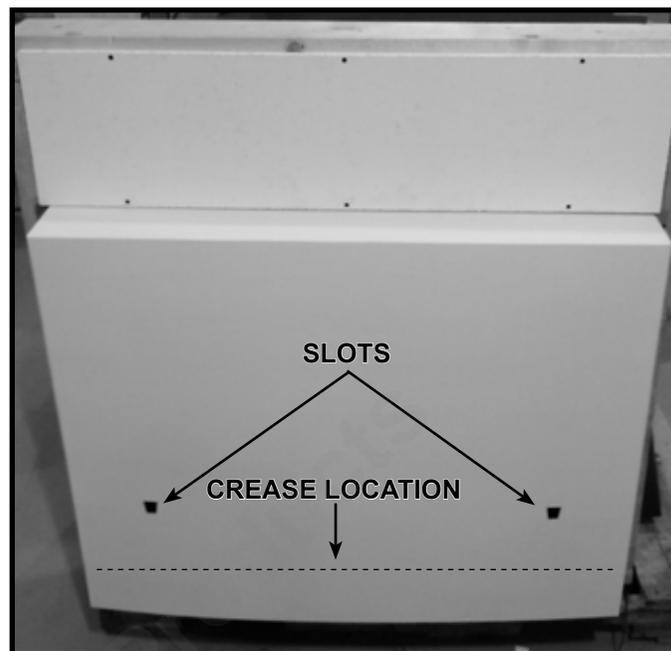

Figure 11.16 Splatter Guard Installed
2. To gain access to the component tray, lift the flap on the splatter guard and crease the perforation by hand. Bend the tabs and insert them into the slots on the splatter guard. See Figures 11.16 and 11.17.